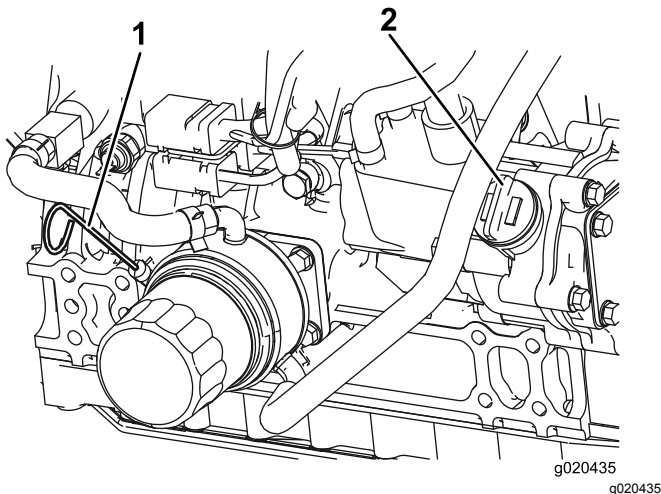

Figure 51
3. Remove the dipstick, wipe it clean, install the dipstick into the tube, and pull it out again. The oil level should be between the full and add marks (Figure 51).
4. If the oil level is low, remove the fill cap (Figure 51) and add oil until it is between the full and add marks. **Do not overfill.**